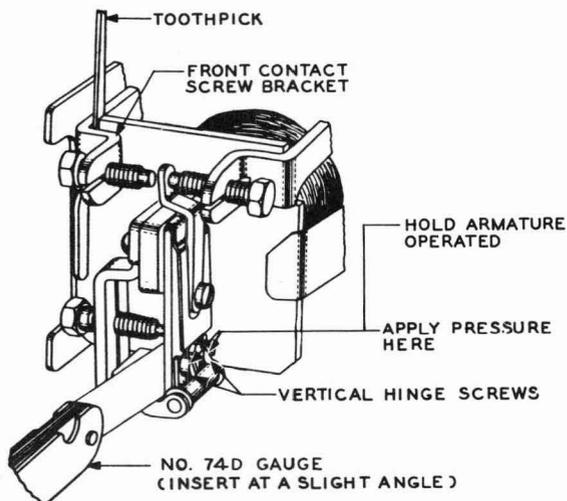

Fig. 12 - Method of Adjusting for Base Gap
(1) **Relays With Solid Contact Springs:** In the case of relays not having a contact spring support, insert a toothpick between the front contact screw bracket and the front spoolhead as shown in Fig. 12 when adjusting the relay.
(2) **Hinge-type Relays:** Check that the vertical hinge screws do not project through the armature. If they do, replace them. If the vertical hinge screws are satisfactory, proceed as covered in (4).
(3) **Reed-type Relays:** In the case of reed-type relays, turn the retractile spring screw in a counterclockwise direction with the No. 43 wrench in order to insert the No. 74D gauge between the armature and return pole piece. Then proceed as outlined in (4).